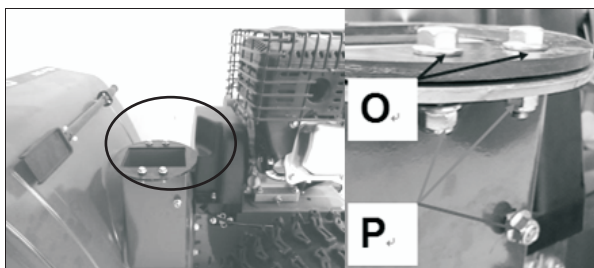

Fig.5A
1. Remove the nut (Fig.5A: P) and bolt (Fig.5A: O) on the main body.
2. Put the fixing hole of SNOW DISCHARGE SUPPORT on the same position with the main body, fixing the bolt with nut M6 (Fig.5A: P), keep loose firstly, see Fig 5B;